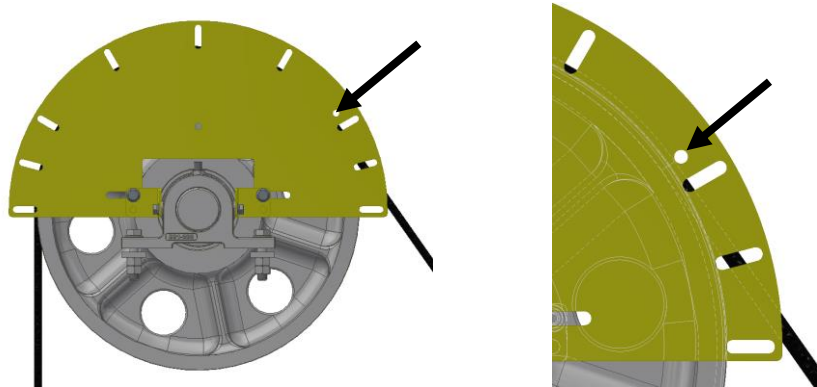

Figure 5: Rope Retainer Arc of Contact Tangency
- It is recognized that the angle of wrap may fall between these standard positions as in the example below of 145° illustrated in Figure 5. A17.1/B44 code (8.4.3.1.4 (b)) states that "... a restraint is located at each end of the arc of contact."
- As necessary, drill 9/16" (0.5625") holes at the ends of the arc of contact (in the example given 145°) as shown below in Figure 5. Make sure that the hole position allows running clearance between the rope and the retaining rod.